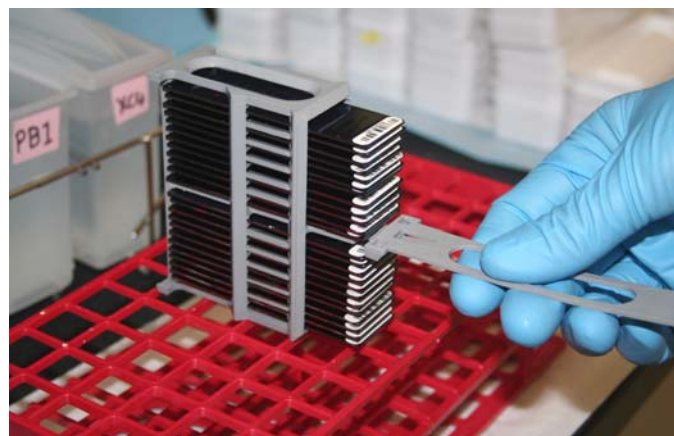

Figure 159 Moving the Staining Rack from XC4 to Tube Rack
19. Remove the staining rack in one smooth, rapid motion and place it directly on the prepared tube rack, making sure the barcodes face **up** and the locking arms and tab face **down** (Figure 159).